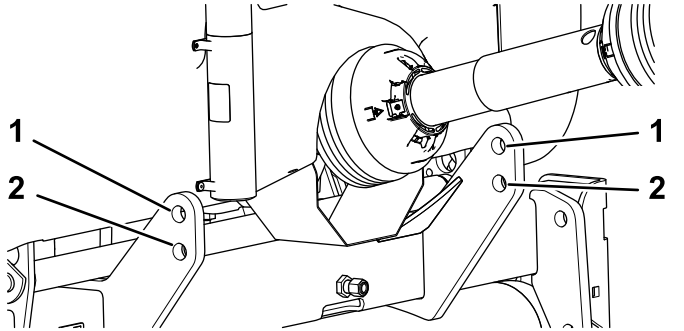

Figure 5
**Note:** For maximum ground clearance, install the hitch pins in the lower mounting holes of the hitch plate for the machine (Figure 5). To determine when to use the upper mounting holes, refer to setup procedure 4 Connecting the PTO Driveshaft (page 11).